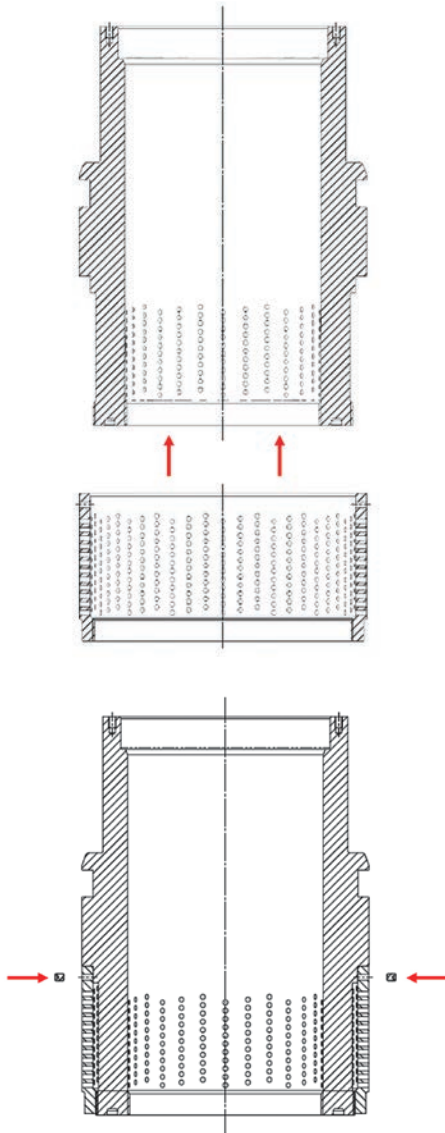

Figure 11 - Exploded View of 41355 API 6A Trim
3. In case of double cage TRIM 41355 API 6A see Table 4, assembly as Figure 11
- a. Put the inner cage (13) upside down